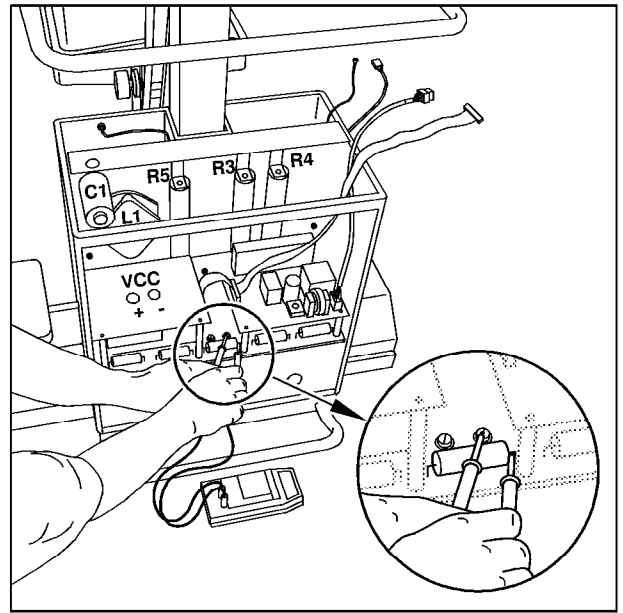

Fig. 1
- Always measure the actual voltage present with the DVM at test points -VCC and +VCC on the D960 inverter board or (more accessible) on the D970 capacitor board at the + connection point of capacitor C3 and on the right side of fuse F3 (refer to Fig. 1).